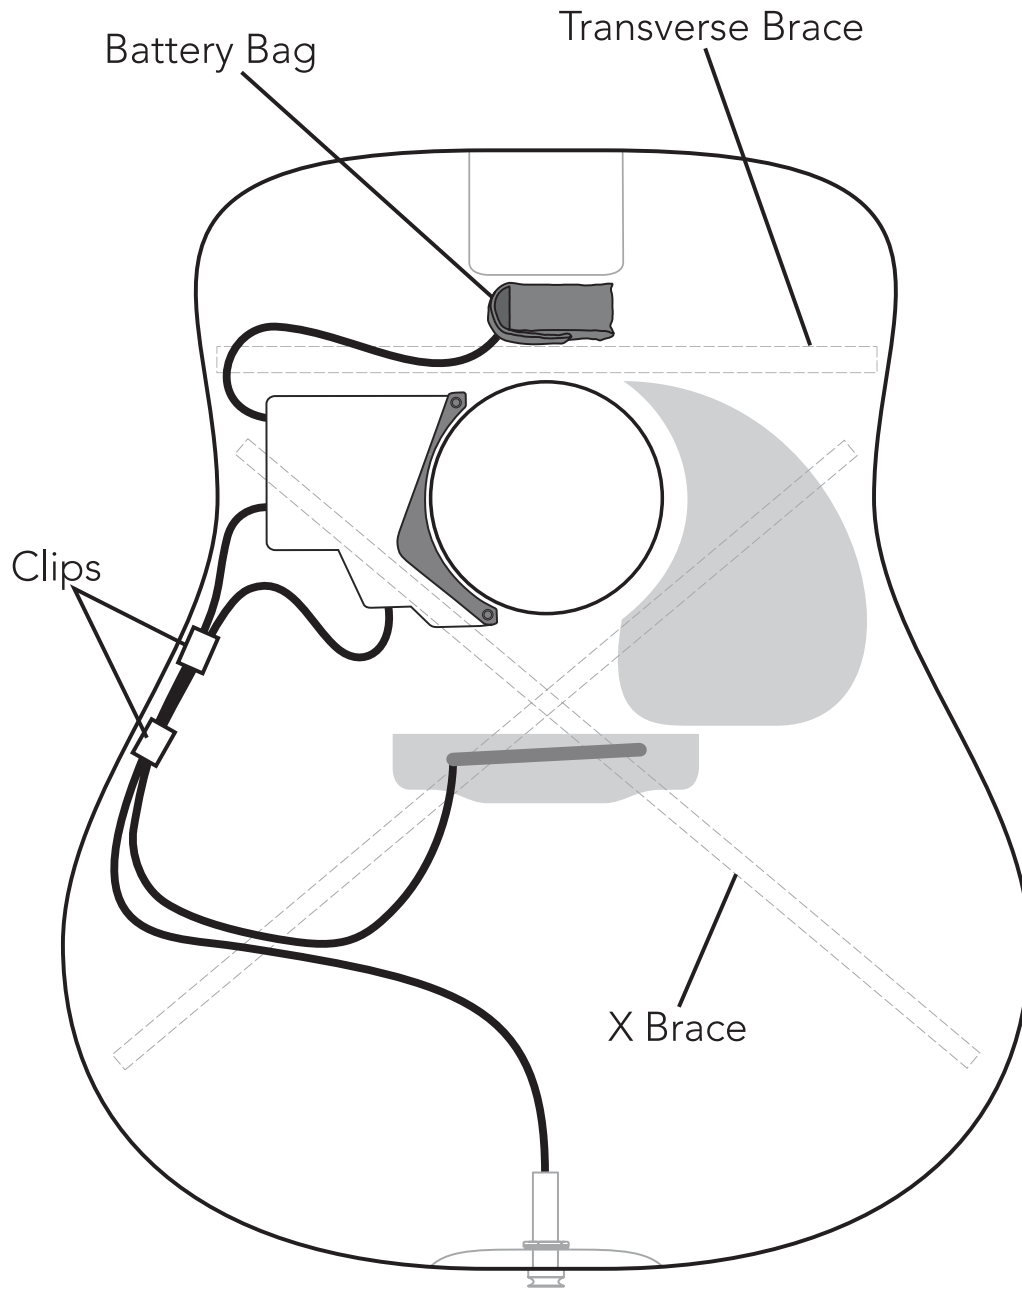

Figure 1. Component locations
Before exposing the adhesive, test the preamp for fit. Locate the module flush with the edge of the soundhole, on the bass side. Center it between the transverse brace and the bass-side X brace (figure 1). If viewed as a clock face (neck at twelve o'clock), you will position the phase switch at nine o'clock.
7. Secure the wires inside the instrument with the supplied adhesive-backed clips (figure 1). Clean the area where you will mount the clips with mineral spirits. Let the area dry before continuing.